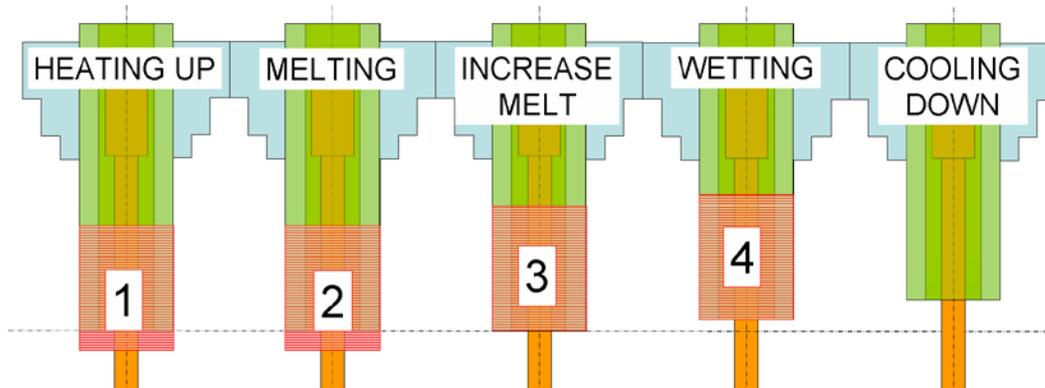

Figure 1: laser seal scan program
To balance the temperatures the maximum limit of local energy is determined by the bubble formation in the glass (laser process parameters: peak power, pulse time and pulse frequency), global temperature is determined based on leakage tight sealing without bubble formation by optimizing the galvo scan profile as is explained in figure 1.
**Scan figure 1** is positioned at the end of the glass tube and heats up the glass just below the melting temperature.
**Scan figure 2** is positioned at the same position as figure 1 and melts the end of the glass tube.